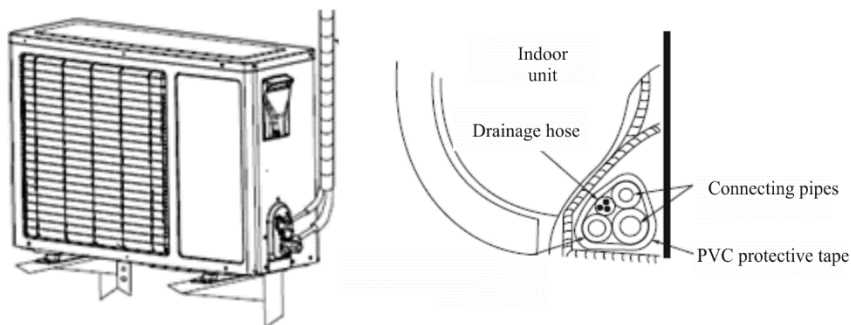

Fig. 12
- Strapping should start from the lower part of the outdoor unit to the indoor unit (Fig.12).